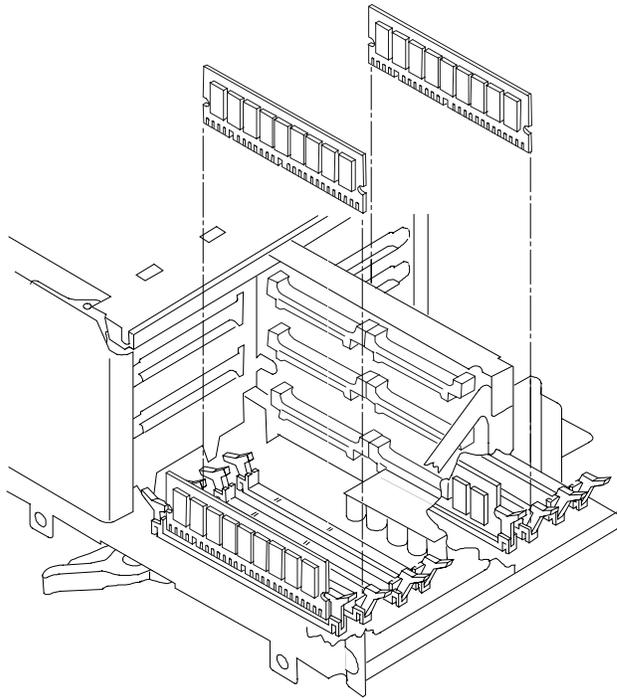

Figure 5-5. Align DIMM Notches with slot keys
- c. Align the notches on the DIMM with the slot keys on the slot (see Figure 5-5).